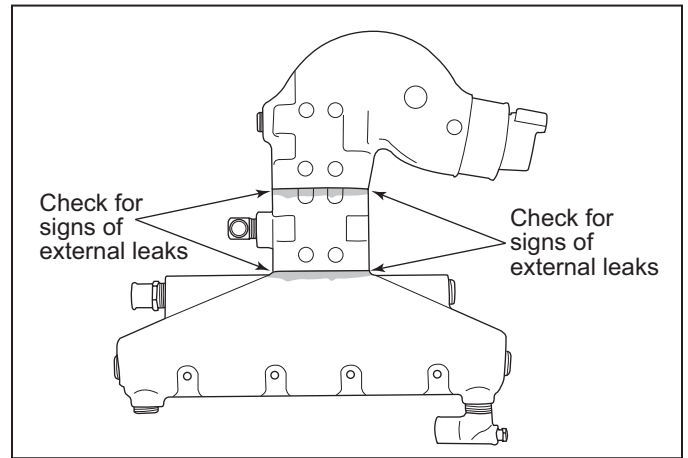

Figure 4-2A Water Leaks
- Cooling system for leaks. If equipped with fresh-water cooling, check coolant level in recovery bottle. Check for signs of water leaks at the exhaust manifolds, risers and elbows (Figure 4-2A). If the water is leaking externally, it is possible that the water is also leaking internally. This could result in internal engine damage. It is very important to service these maintenance items as soon as a problem is indicated.